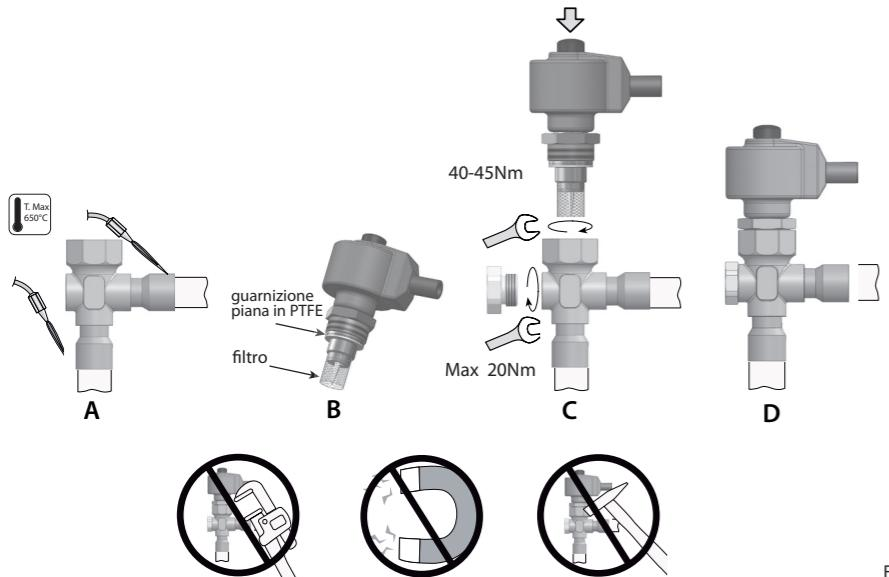

Fig. 2
Seguire la successione indicata in Fig. 2 procedendo in questo modo:
2. Procedere alla saldatura orientando la fiamma verso l'estremità dei raccordi come da fig. 2 A (per una migliore brasatura senza alterare la tenuta della zona di saldatura tra corpo e raccordi utilizzando lega con temperatura di fusione inferiore a 650 °C o con tenore di argento superiore del 25 %).
6. Avvitare nel corpo valvola la cartuccia in acciaio all'apposito alloggiamento filettato con una chiave a forchetta da 24. Serrare la cartuccia portando la ghiera in battuta sul corpo valvola con una coppia di serraggio suggerita di 40-45 Nm (Fig. 2 C). Per favorire un più rapido assemblaggio della valvola, si consiglia di non smontare il motore dalla cartuccia.
The Unipolar E2V-S valves must be joined to the circuit by braze welding the copper fittings to the condenser outlet (IN) and evaporator inlet (OUT) pipes. Proceed as indicated in Fig. 2:
2. Weld by aiming the flame at the ends of the fittings as shown in Fig. 2-A (for better braze welding without affecting the seal of the welded area between the body and the fittings, use alloys with a fusion temperature less than 650 °C or with a silver content above 25%);
4. Make sure that the PTFE flat gasket is present in its seat (Fig. 2-B). Otherwise, take a flat gasket from the packaging and place it in the cartridge from the side of the brass bushing.
5. Make sure that the metal mesh filter is inserted on the brass bushing (Fig.2-B). Otherwise, position it as shown in the figure and make sure it's properly in place. **Warning! Only use the one-way filter with fluid inlet from the connection side. If using the valve in the opposite direction, install a special filter in the circuit, removing the one supplied.**
6. Tighten the steel cartridge in its threaded socket on the valve body using a 24 mm spanner. Tighten the cartridge on the valve body to a recommended tightening torque of 40-45 Nm (Fig. 2-D). For faster valve assembly, do not remove the motor from the cartridge. **Warning! If the threaded rod comes completely out of the cartridge, proceed as follows:**